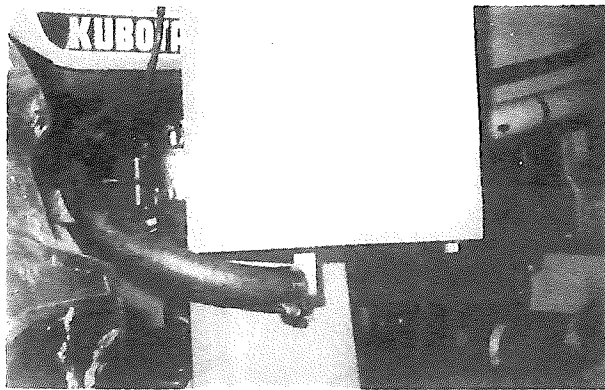

FIG. 19
20. (External hydraulic pump installation only): Install 1" suction hose to reservoir. Figure 19. Secure with clamp. (If suction hose is too close to the tire or brake, use tie straps to secure hose from interfering.)